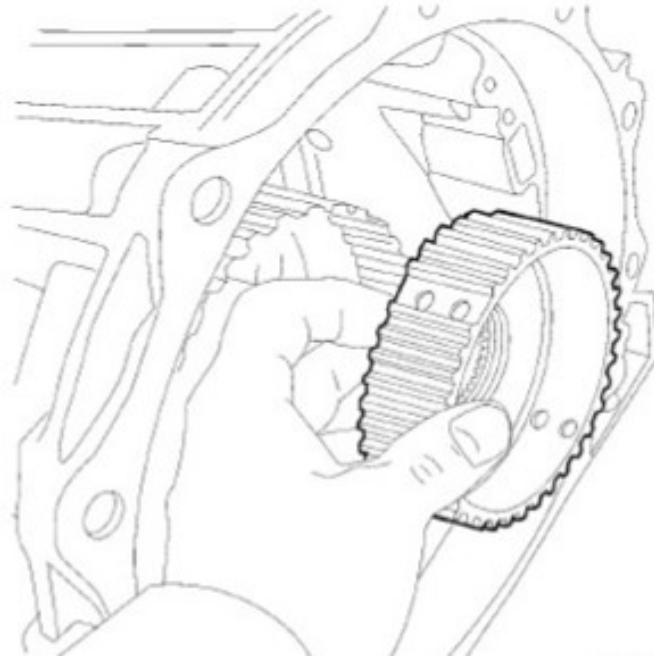

Fig. 8
11. Remove and inspect the K1 clutch hub Fig. 8 and Fig. 9. **Replace only if needed.**